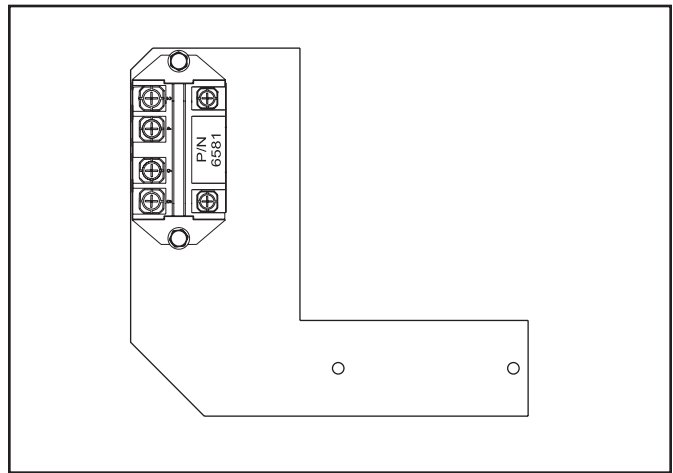

Figure 5. Use the Mounting Bracket if the Filter Pump Relay is Mounted in the High Voltage Assembly
- Mount the blower relay to the relay bracket, included in the kit, using the provided screws, as shown in Figure 5, if a standard time clock is controlling the filter pump.